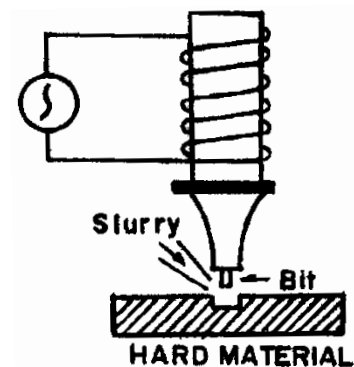

Fig. 7.7 Ultrasonic drilling
- 1) **Drilling:** Ultrasonic is high frequency and high energy wave, so they can be used in applications involving high amount of energy. They can be used to make a drill even in hardest material of world i.e. Diamond. For this a tool bit is attached at lower end of magnetostriction oscillator. The sheet to be drilled is kept below the tool bit. It is driven by a magnetostriction oscillator that creates the vibrations. When oscillator is switched on the tool bit moves up and down that produces enough strain to make a drill in the sheet. The setup of drilling is shown in figure 7.7.